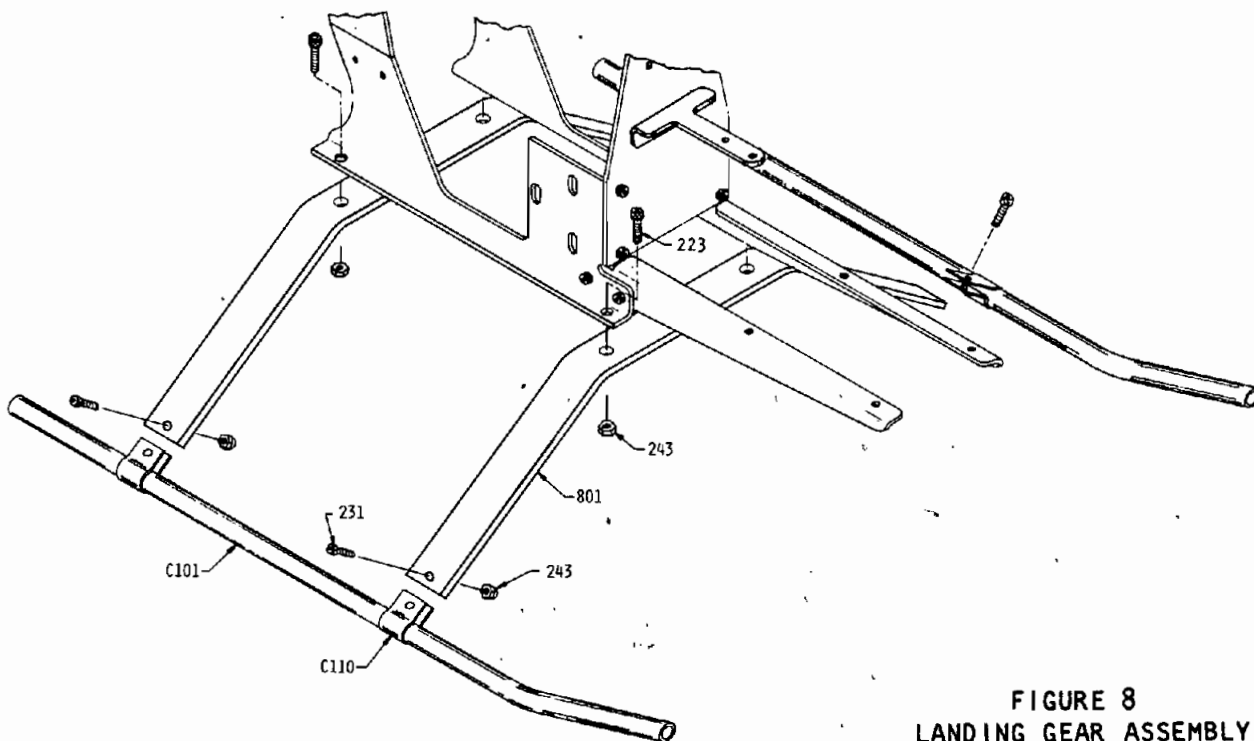

FIGURE 8
**STEP 8** LANDING GEAR ASSEMBLY - see Figure 8